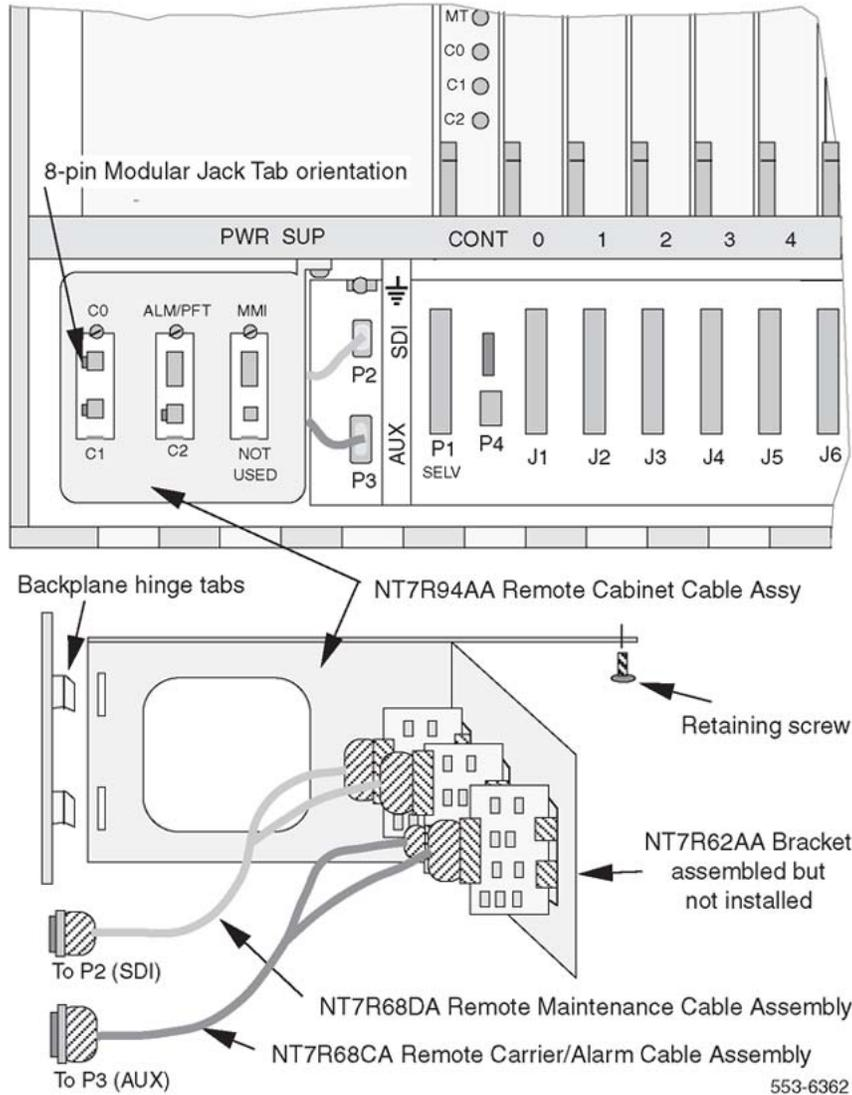
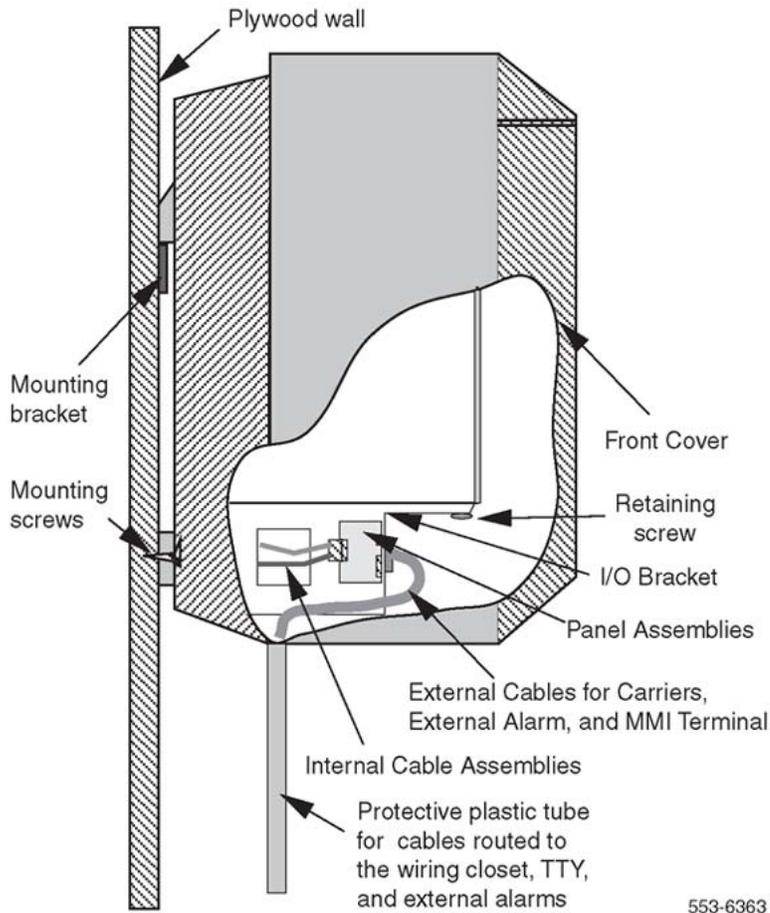

Figure 17: Carrier cable routing for the Carrier Remote IPE cabinet
Figure 18: Carrier cable routing for the Carrier Remote IPE cabinet
The NT1P70/NT1P60 main Carrier Remote IPE cabinet is equipped with a I/O bracket assembly used in Fiber Remote IPE. This bracket must be removed and the NT7R94AA Remote Cabinet Cable Assembly must be installed in its place. Refer to Figure 17: Carrier cable routing for the Carrier Remote IPE cabinet on page 94.
1. Align the two bracket holes with the two hinge tabs as shown in Figure 17: Carrier cable routing for the Carrier Remote IPE cabinet on page 94.
Figure 17: Carrier cable routing for the Carrier Remote IPE cabinet on page 94 shows an installed and connected Remote Cabinet Cable Assembly. The cables are connected to P2 and P3 located on the cabinet backplane to provide connections to carrier links, the SDI/MMI terminal or TTY, the PFTU, and the customer external alarms (alarms 1 and alarm 2 only).
See Figure 17: Carrier cable routing for the Carrier Remote IPE cabinet on page 94 and Figure 18: Carrier cable routing for the Carrier Remote IPE cabinet on page 98.
Figure 18: Carrier cable routing for the Carrier Remote IPE cabinet on page 98 shows the Carrier Remote IPE cabinet and the carrier cable connecting carrier links to the cabinet.